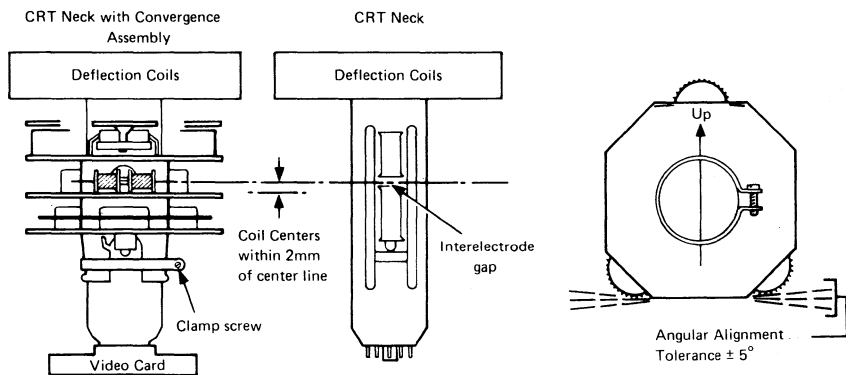

Figure 4-8. Convergence/Purity Coil Assembly
14. Slide the convergence coil assembly onto the CRT neck and position the assembly over the interelectrode gap as shown in Figure 4-8. Adjust the angular alignment to the stated tolerance. Use the machine base as a reference.